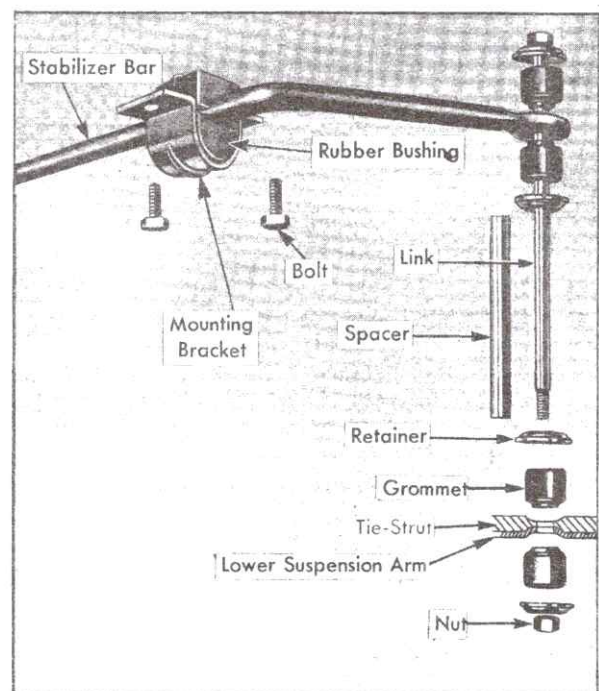

Fig. 3-8 Front Stabilizer Linkage
1. Remove nut, retainer, and grommet from bottom of each link, Fig. 3-8.
2. Install mounting brackets over rubber bushings and secure with bolts, Fig. 3-8. Tighten bolts to 20 foot-pounds.
3. Install grommets, retainers, links, and spacers on ends of stabilizer bar, making certain that retainers and grommets are arranged exactly as shown in Fig. 3-8.